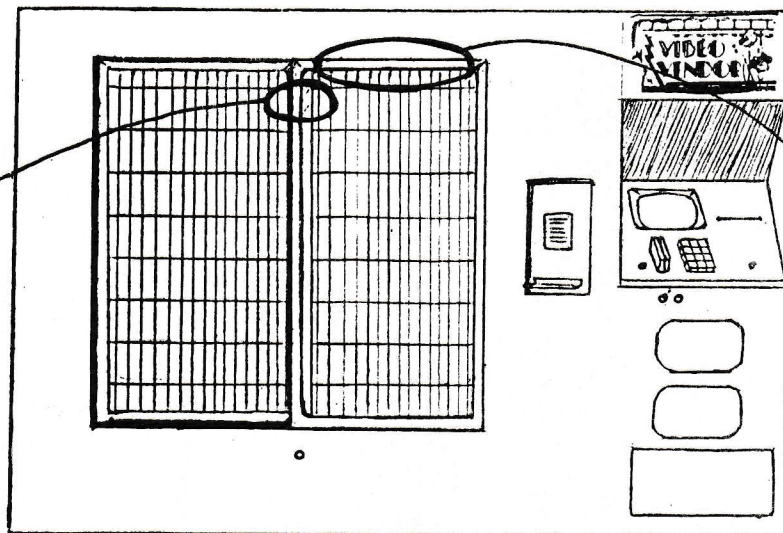

FIG. 2
1. Slide the right door open and screw two screws into the upper surface of the wood track at the positions shown. See FIG. 2.